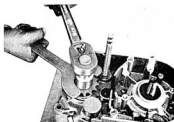

Fig. 4-12-2
- 2) Keep the drive sprocket from turning, with the flywheel magneto holding tool, and remove the sprocket nut. (Fig. 4-12-2)